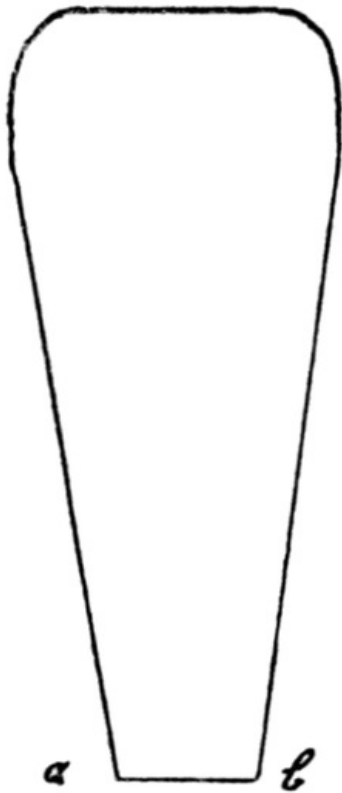

FIG. 481
**To make Propellers.** These can be made of tin or wood. A tin propeller can be cut from any old tin with a pair of shears or strong scissors kept for the purpose. Cut two blades to the shape shown in Fig. 481.
Next cut an oblong block of wood (Fig. 482); notice that width *a b* in Fig. 482 must equal *a b* in Fig. 481, therefore width of *a b* must be a little less than *a b* in Fig. 481. Slit each end diagonally as in Fig. 482 for about 1/2 inch to hold the blades. Drill a hole through centre of block for the wire axle *d c*. Insert the blades in the slots, bend the ends over slightly and nail them in the wood to keep them firm. Fix the wire shaft firmly in the block as in Fig. 482. The propeller is now ready to be attached to the glider.